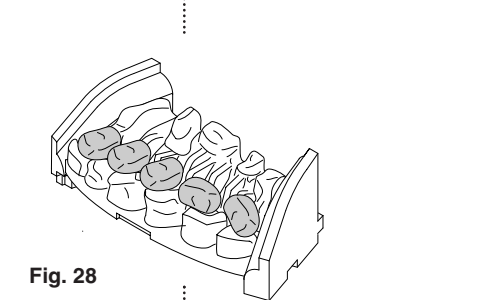

Fig. 28: Diagram showing the burner bracket lip and the rear coal spacer lugs.
5. Place 5 of the loose coals into the location recesses of the front coal, (flat face downward). The 3 centre coals should rest against the corresponding rear coal spacer lugs. Orientation of the coals should be as shown in order to achieve the desired flame picture (Fig. 28).